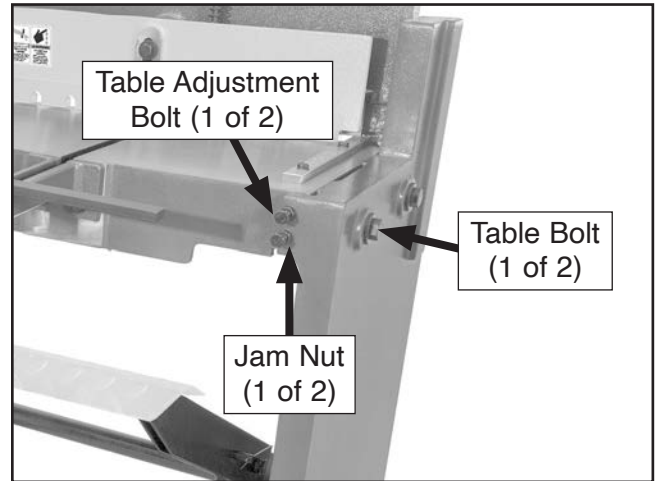

Figure 36. Location of blade gap adjustment components.
2. Loosen (2) table bolts, (2) table adjustment bolts, and (2) jam nuts on side of shear that needs adjustment (see **Figure 36**).